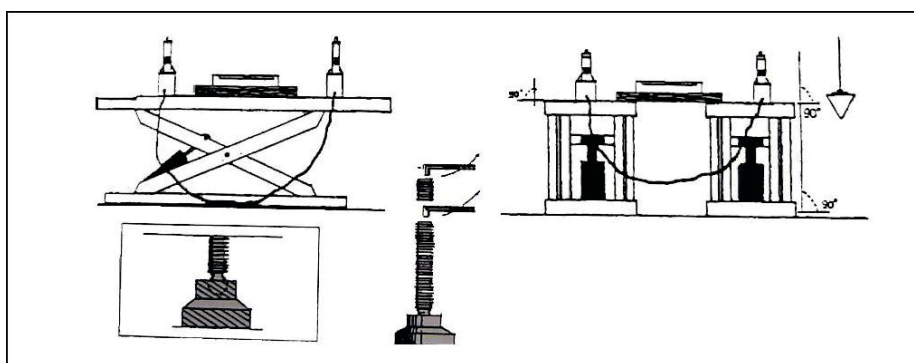

fig.19
9. Check that the surfaces of the left and right platforms are level laterally and longitudinally, using a spirit level (Fig. 19).